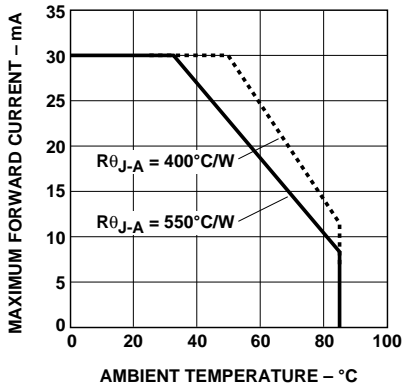

Figure 5. Maximum forward current vs. ambient temperature. Derating based on  $T_{JMAX} = 110^{\circ}C$ .
1. Derate linearly as shown in Figure 5.